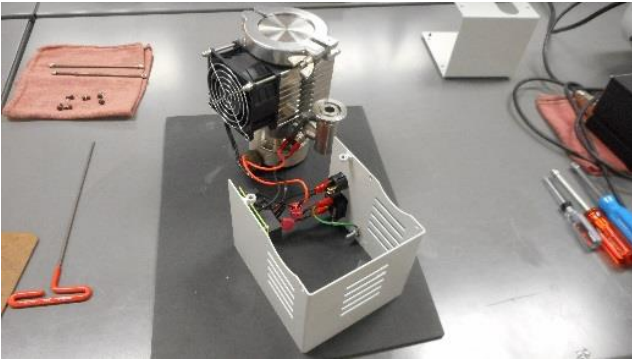

Fig 2
6. Lift out and rotate the diffusion pump to set aside from the shroud to gain access to heater and leads. See Fig 2.